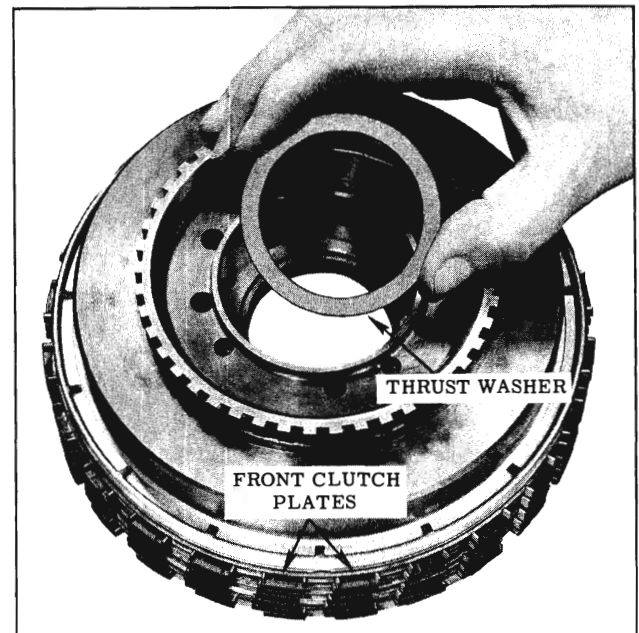

Fig. 3-79 Installing Thrust Washer
11. Install bronze thrust washer into recessed I.D. of front clutch housing bore using petroleum to retain. (Fig. 3-79)